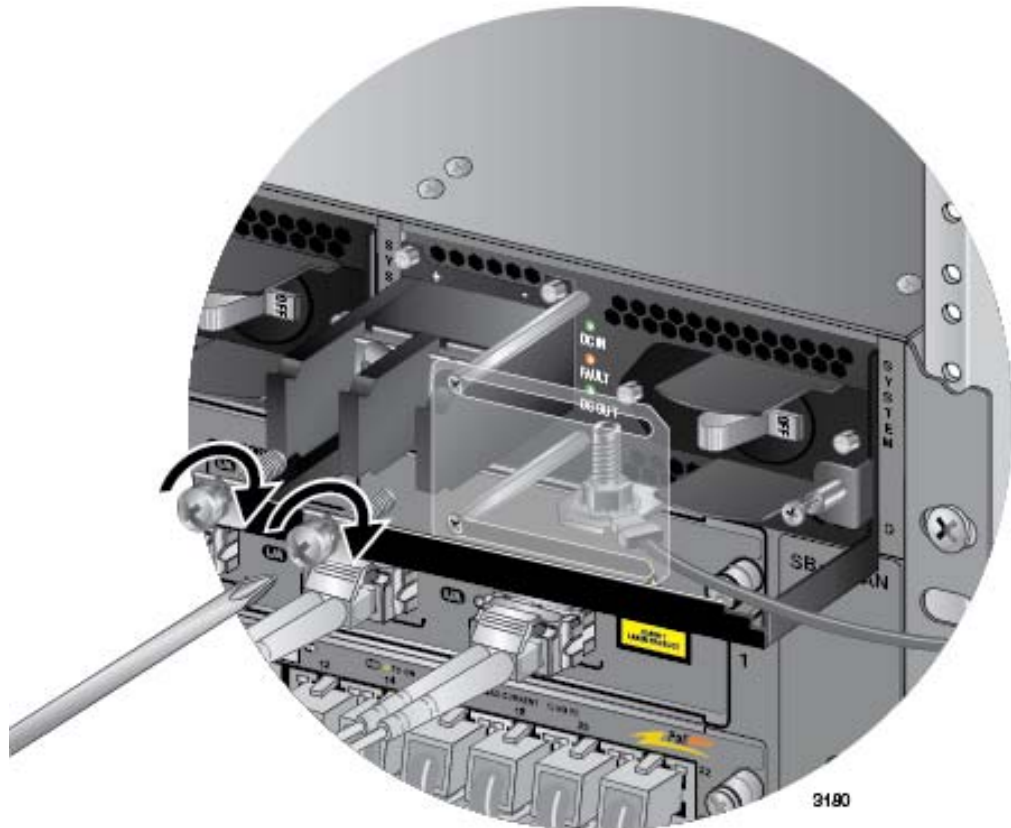

Figure 163. Reinstalling the Screws on the Positive and Negative Terminals
7. Reinstall the two screws on the negative (-) and positive (+) terminals. Refer to Figure 163 on page 265.